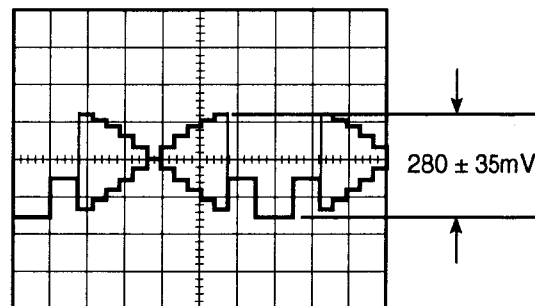

Fig. 5-36
- Confirm that the Video signal becomes 280 ± 35 mV as shown in Fig. 5-36.
- If not, adjust data with the **ARROW** keys so that the Video signal level becomes 280 ± 35 mV as shown in Fig. 5-36.